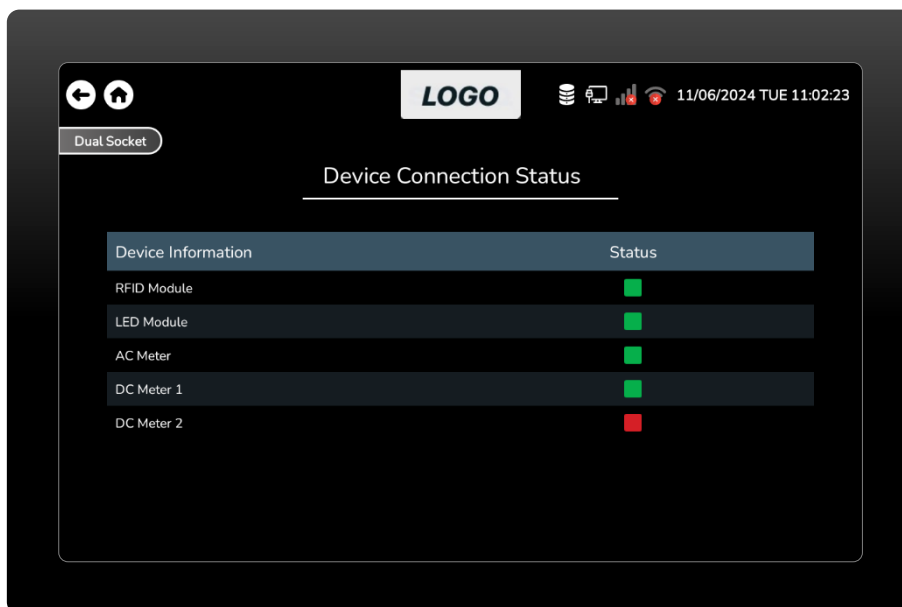

Figure 108 Device Connection Status Screen
- This is a device connection status screen that indicates the status of devices such as RFID and LED modules, as well as AC, DC meters 1 and 2. (Figure 108)